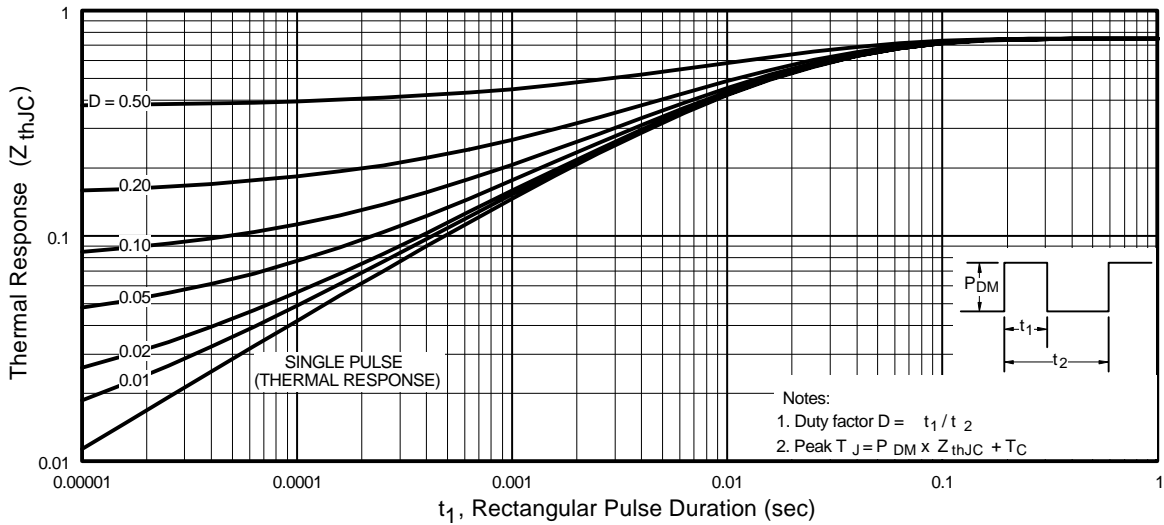

Fig 11. Maximum Effective Transient Thermal Impedance, Junction-to-Case
- ① Repetitive rating; pulse width limited by max. junction temperature. (See fig. 11)
- ② $V_{DD} = 25V$, starting $T_J = 25^\circ\text{C}$, $L = 240\mu H$